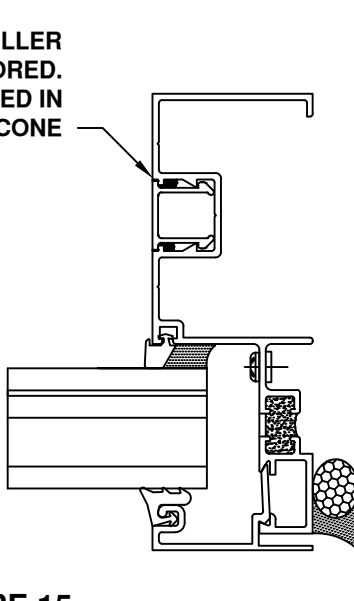

FIGURE 15
- 4.3 If optional jamb member BRW-513 is used, install the BRW-514 jamb filler. Filler must be set in continuous bead of silicone. See FIGURE 15, page 17.